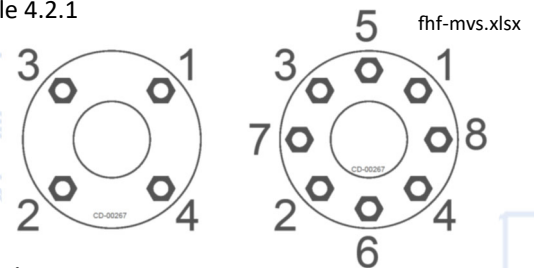

Fig.4.2.1
-The torque sequence is shown in figure 4.2.1
5. Tighten the nuts by hand until they are snug. Establish uniform pressure over the flange face by tightening the bolts in 5 ft.-lbs. increments according to the sequence shown in figure 4.2.1 following a 180° opposing sequence.